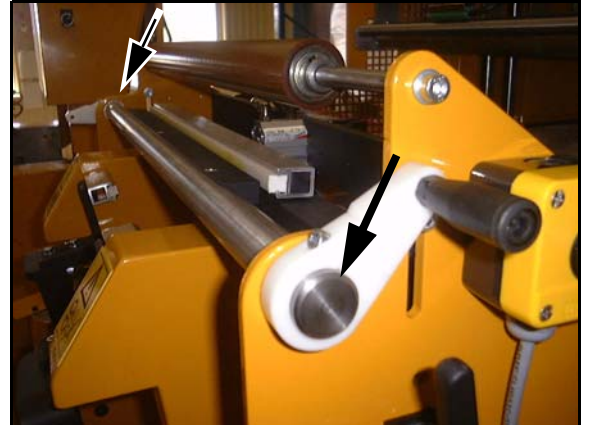

Fig. 42 Loosen the handles
- 1 Loosen both handles on the shaft. See Fig. 42 (Note! reverse mounting is shown)